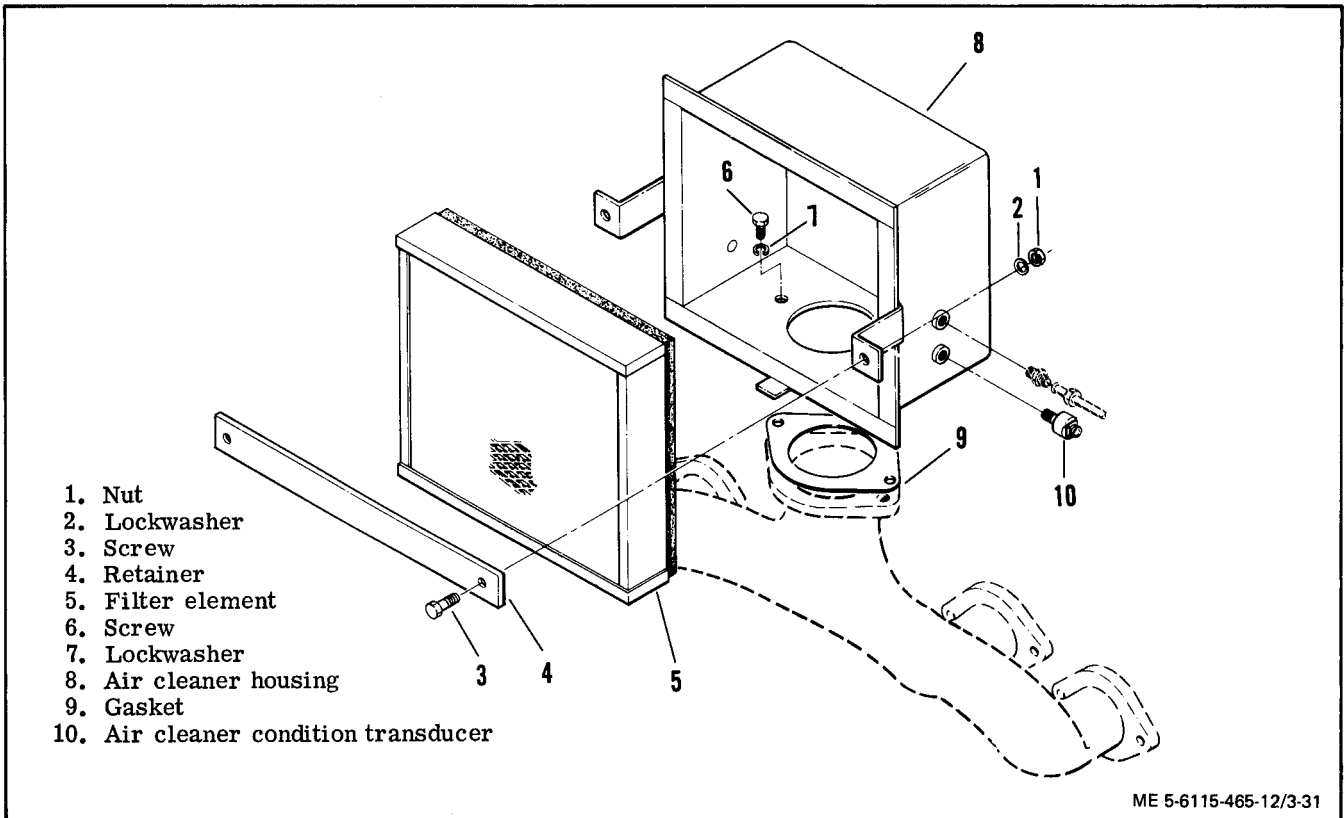

Figure 3-31. Air Cleaner Assembly, Exploded View
(1) Disconnect electrical leads from air cleaner condition transducer.
(2) Disconnect start aid tube assembly and remove spray nozzle (paragraph 3-84).
(3) Disconnect breather tube assembly (paragraph 3-103).
(4) Remove nuts (1, figure 3-31), lockwashers (2) and screws (3) to remove retainer (4) and filter element (5).
(5) Remove screws (6) and lockwashers (7) to remove housing (8) and gasket (9).
(6) Remove condition transducer (10).